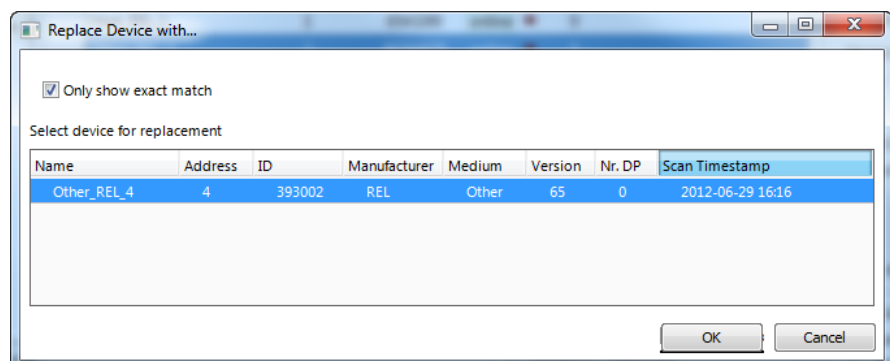

Figure 137: M-Bus Device Replacement Dialog.
5. Select the device which has to be replaced and press the **Replace Device** button. This opens the dialog displayed in Figure 137.